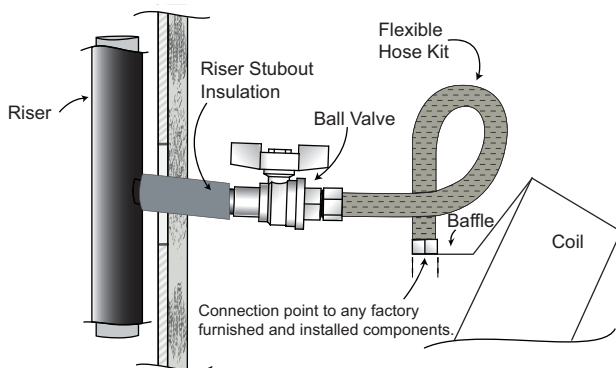

Fig. 31 — 42SMA Riser to Unit Connection
4. All mega stack units use reinforced braided stainless steel flexible hose kits for piping between field-installed risers and unit water coils as shown in Fig. 31. Each hose has threaded